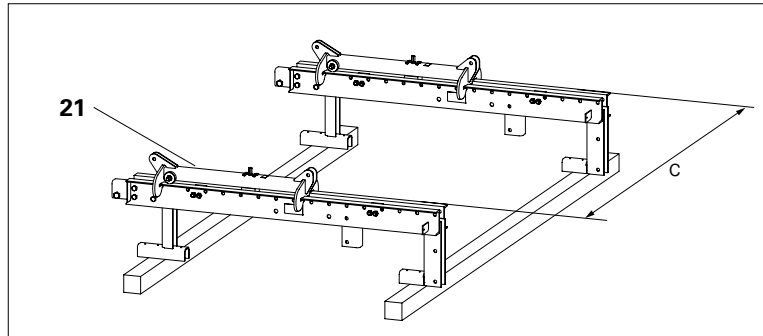

Fig. C2.01
1. Measure and align Crossbeam Unit (**21**) on timbers in accordance with project-specific bracket spacing (c). (Fig. C2.01)